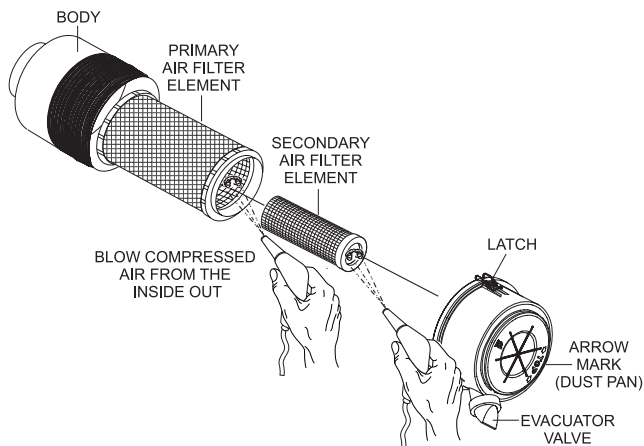

Figure 63. Engine Air Cleaner
This Isuzu diesel engine is equipped with a replaceable, high-density, paper air cleaner element (Figure 63). The air cleaner is also equipped with an inner (secondary) element that is used as a backup filter should the primary element become damaged. Check the air cleaner daily or before starting the engine. Replace the air cleaner as needed.
1. Release the latches that secure the cover to the air cleaner body (Figure 63).
2. Remove the air cleaner cover (Figure 63) and set it aside.
3. Remove both the primary and secondary air cleaner elements (Figure 63).
5. To clean the primary element (paper air filter) as shown in Figure 63, tap the filter element several times on a hard surface to remove dirt, or blow compressed air, not to exceed 30 psi (207 kPa, 2.1 kgf/cm2), through the filter element from the inside out.
8. Clean the inside of the air cleaner body (Figure 63).